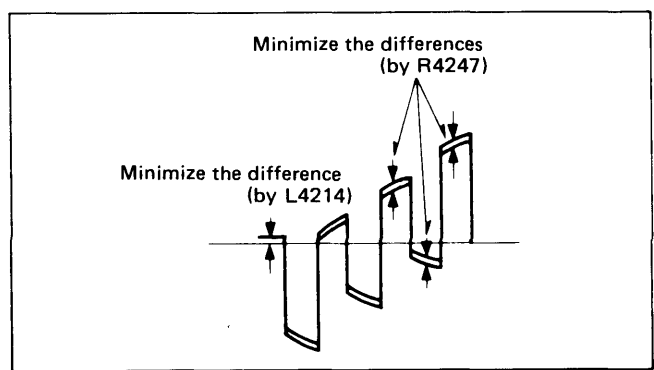

Fig. 40
- 4) Adjust Delay Line Adj. VR (R4247) and Delay Line Matching Trans. (L4214) to achieve waveform shown in Fig. 40.